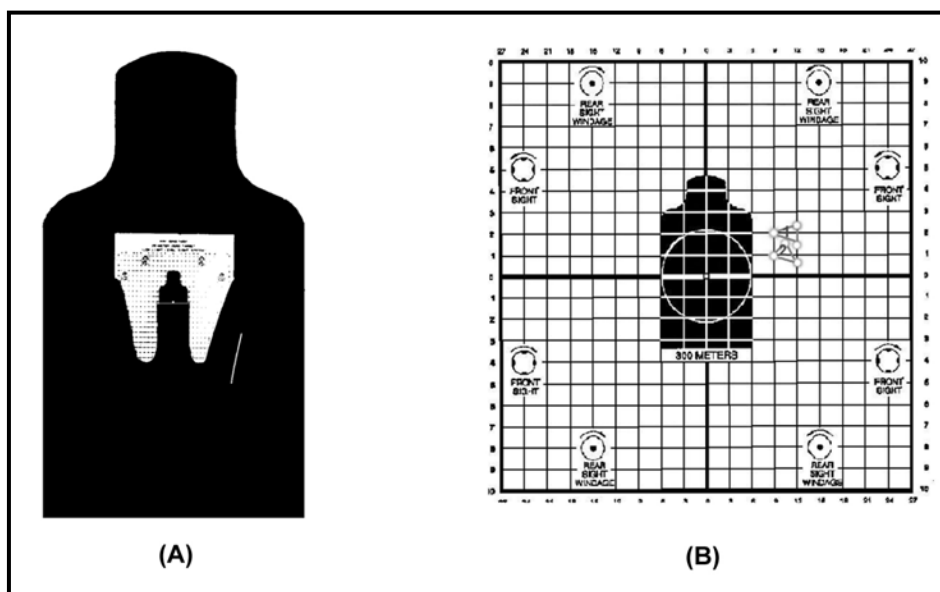
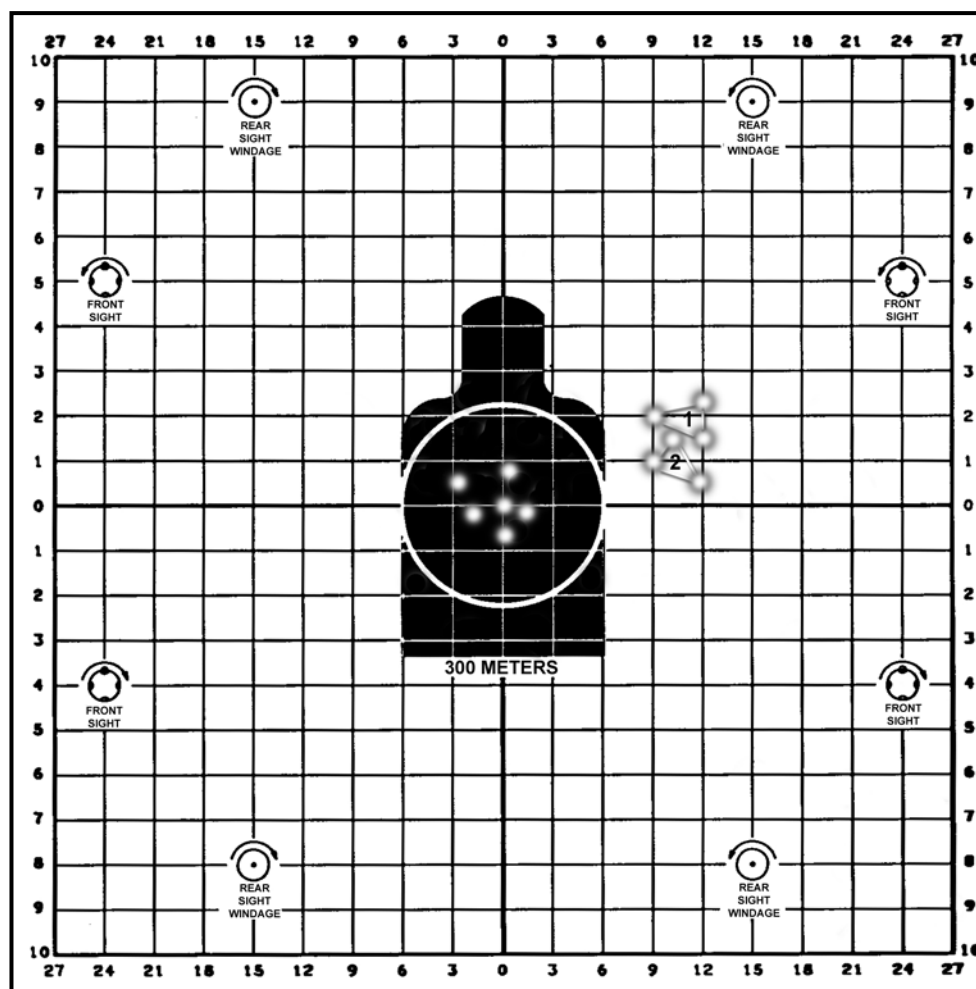

Figure 5-18. Correct aiming (A), initial shot-group results (B).
Figure 5-19. Final shot-group results.
(3) Each shot is fired using the same aiming point (center of mass of the target) from a supported firing position.
(4) Each soldier ensures his sights are set for 25-meter zeroing.
(5) The soldier fires a three-round shot group at the 25-meter zero target. The firing line is cleared, and he moves downrange to examine the shot group. The soldier examines the shot group for fundamental errors, triangulates the shot group and puts the number 1 in the center of the shot group.
(6) Initially the soldier should fire two individual shot groups before a sight change is considered. If the initial shot group is not on paper the weapon should be mechanically zeroed before the soldier fires this weapon again.
(7) The soldier returns to the firing line and fires a second three-round shot group.
(8) The firing line is cleared, and he moves downrange to examine the second shot group, triangulate and mark the center of the shot group with the number 2. The soldier groups the two shot groups and marks the center of the two shot groups with an X. If the two shot groups fall within a 4-centimeter circle the firer determines what sight adjustments need to be made, identifies the closest horizontal and vertical lines to the X, and then reads the 25-meter zero target to determine the proper sight adjustments to make. If the two shot groups did not fall within a 4-centimeter circle the soldier continues grouping.
(9) The soldier then annotates any sight adjustments that need to be made to the weapon on the 25-meter zero target and ensures his name is also on the target. If five out of six rounds fell within the 4-centimeter circle the soldier is zeroed and can be removed from the firing line. (The majority of the round must be inside the circle to be counted.)
(10) The unzeroed soldier returns to the firing line and makes sight adjustments.
(11) Steps 1 through 8 are repeated until the soldier places five out of six consecutive rounds inside the 4-centimeter circle. If the soldier is not zeroed in 18 rounds he should be removed from the firing line and given remedial training before attempting to zero again.
(12) Once firing proficiency has been demonstrated from the supported firing position, zeroing exercises can be conducted from the unsupported firing position. For example, 18 rounds are allocated for the zeroing exercise; if the soldier zeroes in 9 rounds, the soldier can fire the remaining 9 rounds from the unsupported firing position.
c. While applying the fundamentals, the soldier consistently aims center mass of the target as shown in (A) of Figure 5-18. The soldier fires two separate three-round shot groups, as shown in (B) of Figure 5-18, and groups them. Based on the location of these two groups the soldier makes the appropriate sight adjustments. After making the correct sight changes, the soldier fires two more separate three-round shot groups to confirm the adjustments have aligned the sights with the center of the target, and the bullets are in the 4-centimeter circle (Figure 5-19).